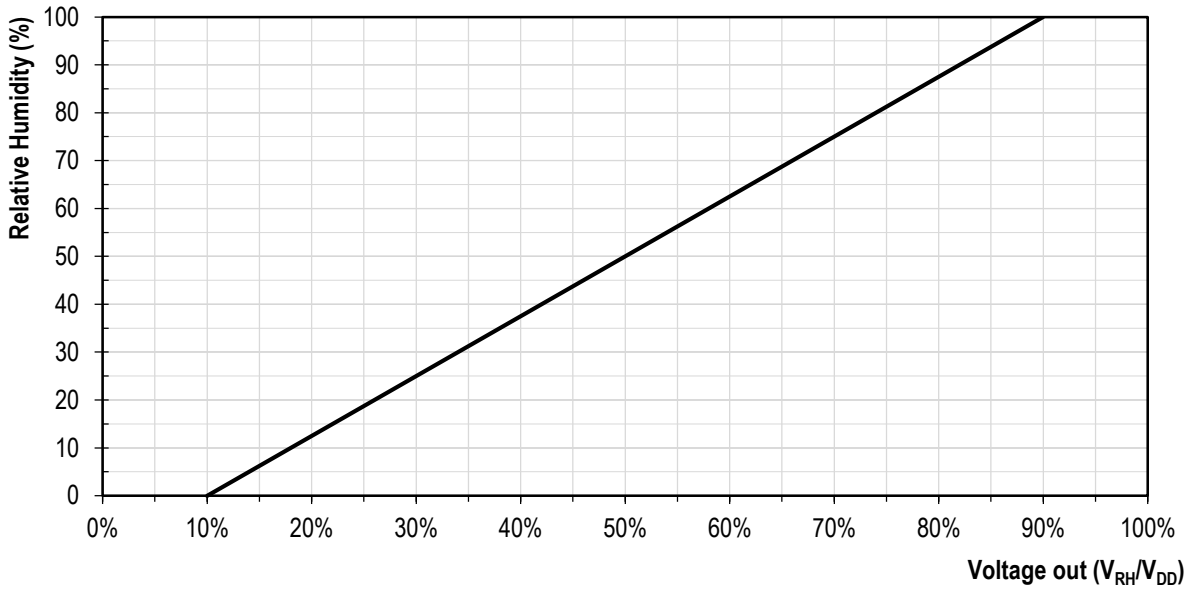
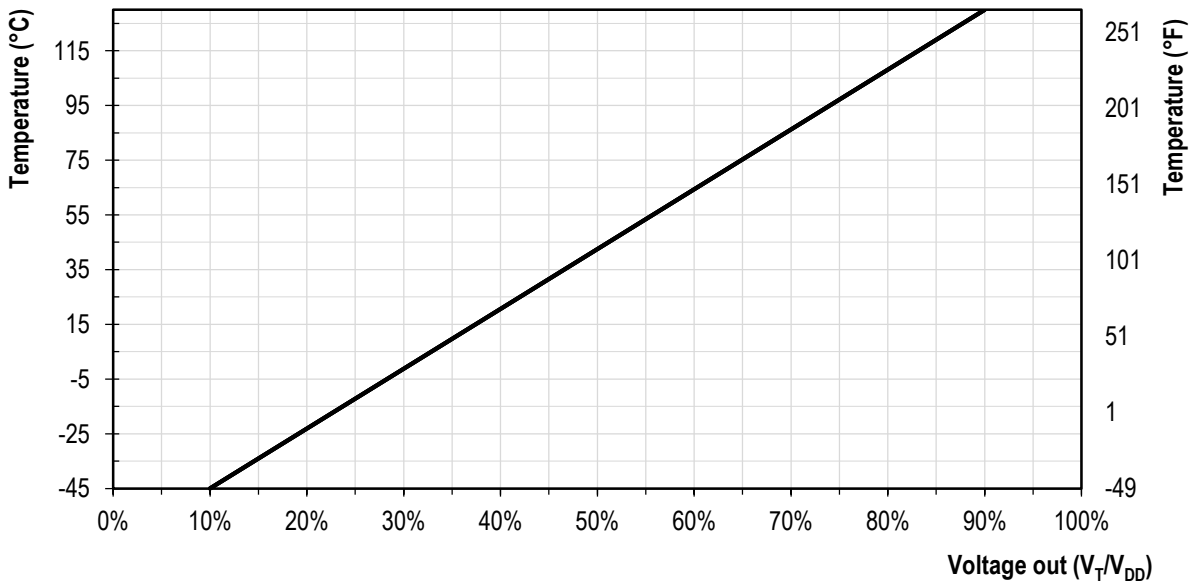

Figure 9 Relationship between the ratiometric analog voltage output and the measured relative humidity.
Figure 10 Relationship between the ratiometric analog voltage output and the measured temperature
This allows to describe the relationship between physical values (RH and T) and the voltage output for temperature and humidity (V_x , $x=T, RH$) through a generic linear formula given by equations (1), (2) and (3); its graphical representation can be found in Figure 9 & Figure 10.